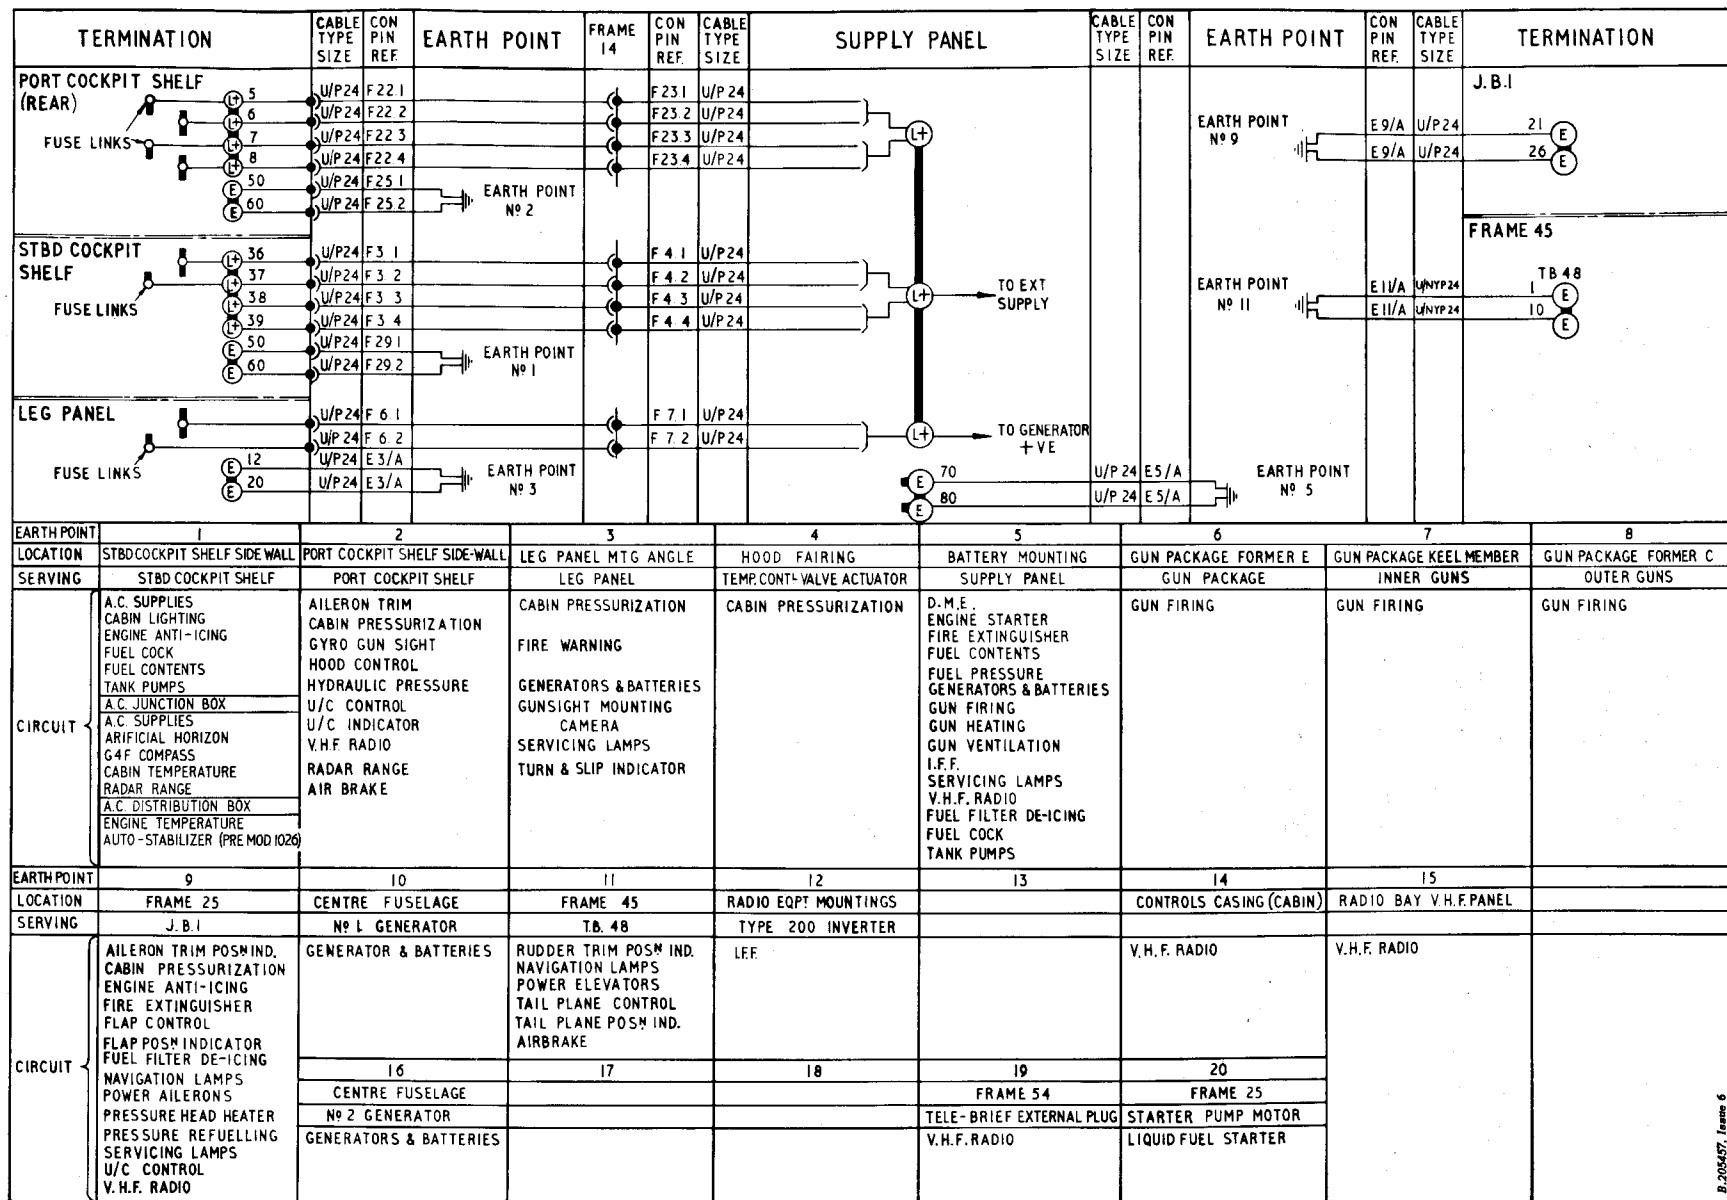

Fig.1 Supply and earth routeing chart
3. The wiring cable assemblies are run between junction boxes and panels located at points convenient for distribution to the equipment and for breaking down the aircraft. The majority of the cable assemblies are provided with fully weatherproof multi-pole plug and socket breakdown points. Whenever possible the cable connections to the plug and socket pins are crimped. To facilitate servicing and testing, the earth return connections are restricted in number and taken to stud type earth points, which are shown on the cable assembly layout, (Group A.3, fig.1) and listed on the supply and earth routeing chart, fig.1 of this group.
4. The generators are mounted on, and driven by the auxiliary gearbox situated in the engine bay, and their control equipment is mounted on a panel located on the starboard side of the radio bay. The batteries are mounted on a platform also located in the radio bay. The supply from the generators and batteries to the fuse bus-bars is shown, together with the earth return points, on fig.1 of this group.